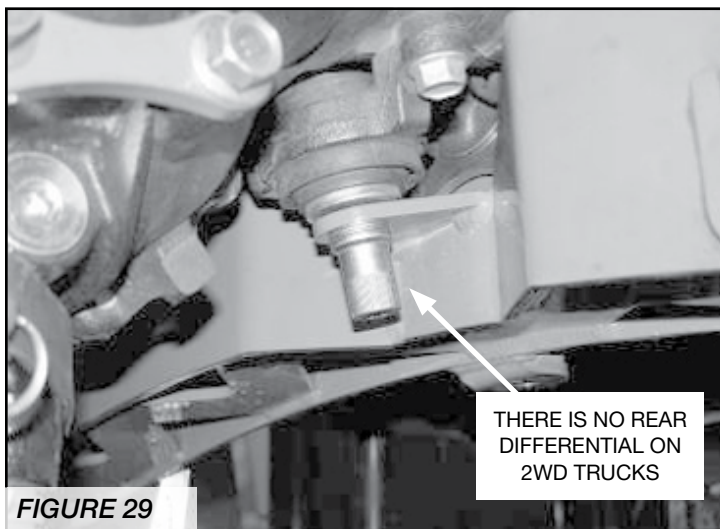

FIGURE 29
21. Locate the Fabtech rear crossmember FT70052 06-09 models FT70163 10-12 models, with the supplied $\frac{9}{16}$ "x5 bolts, nuts, and washers install the crossmember to the factory control arm pockets. Leave loose at this time. Re-install the factory rear differential nut at this time. **SEE FIGURE 29**